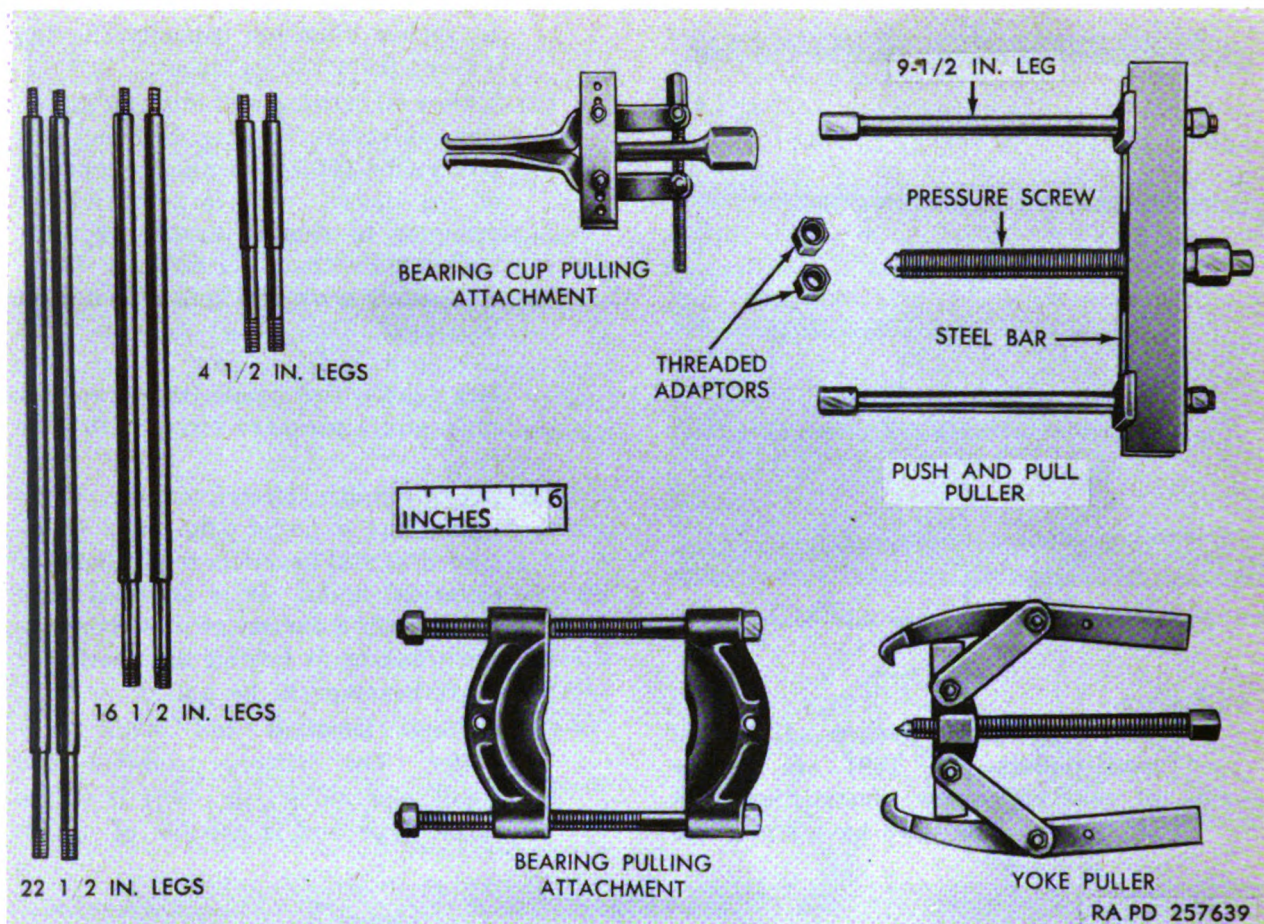

Figure 169. Push and pull puller set.
- (6) *Push and pull puller set.* The push and pull puller set (fig. 169) is used in conjunction with a variety of attachments and adapters. The push and pull type puller consists of a 13½-inch steel bar slotted to receive two 9½-inch legs. A pressure screw in the center of the bar is 13 inches long having a diameter of 1 inch and is threaded. This puller is universal and versatile, with the use of bearing
c. Push and Pull Puller Set. The universal push and pull puller set (fig. 169) is probably the best all-around puller combination available. Several combinations of its component parts are discussed and illustrated, as indicated in (1) through (4) below.